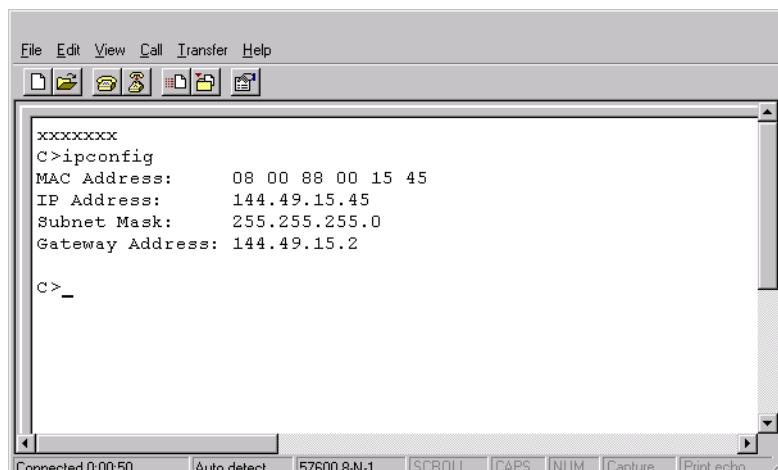

Figure 10: HyperTerminal window
8. At the > prompt, enter the user-level password (the default is password). The password is case sensitive. The HyperTerminal window displays with a C> prompt at the top of the window (Figure 10).